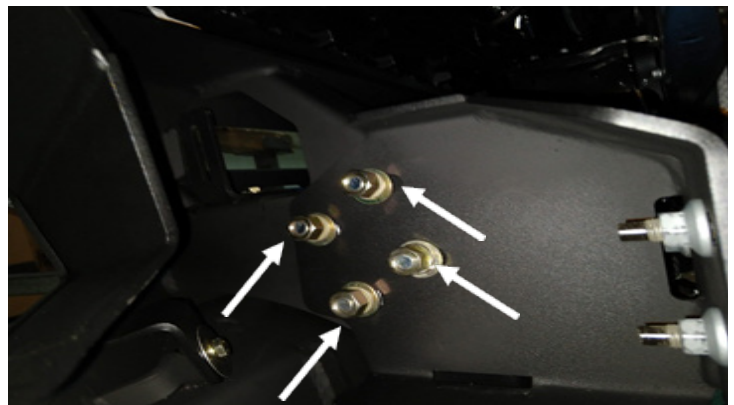

Figure 26
30. Loosely install four (4) of the provided 1/2" yellow-zinc grade 8 nuts, flat washers, and lock washers (50203-HW) per side onto the previously installed bolt strips. (Figure 26)